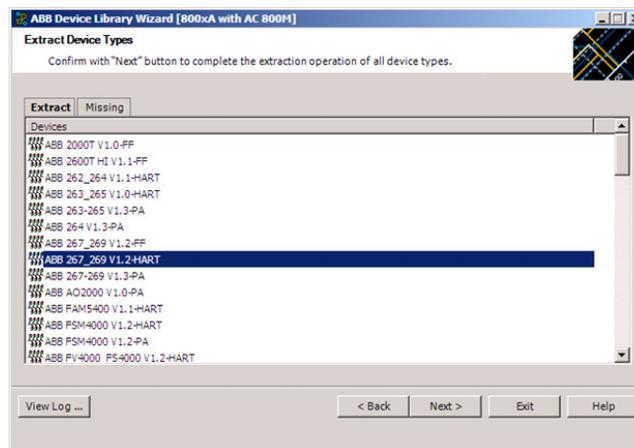

Figure 11. Extract Device Type Files
9. The Device Library Wizard scans the 800xA System for fieldbus device types that are already used and compares the results with the contents of the DVD. Device Types available in the 800xA System and the DVD are shown in the **Extract** tab of the Device Library Wizard (Figure 11).